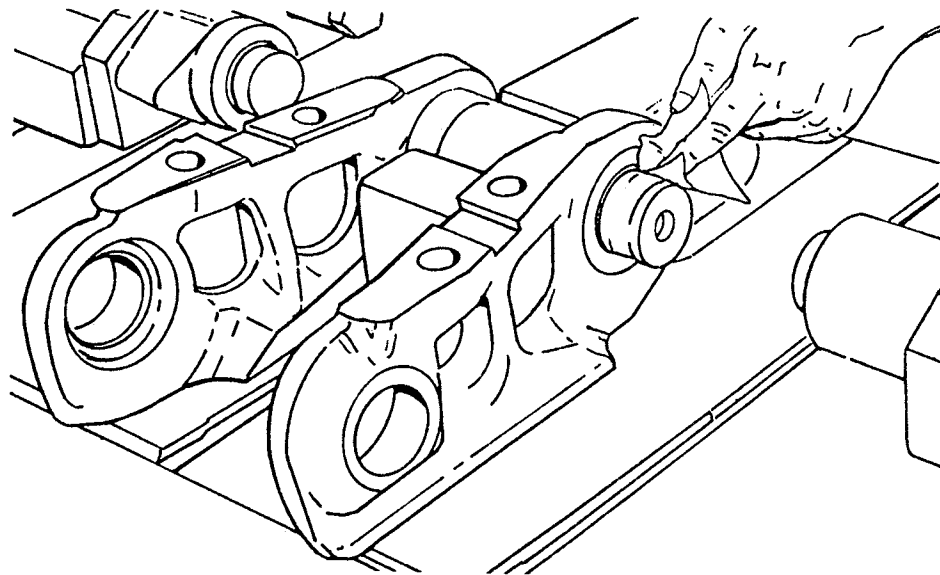

FIGURE 3
- Advance the track on the press and position a pin in the assembled bushing. Apply a coat of oil on the ends of the bushing with tissue (not your fingers) as shown in Figure 3, being careful not to get it on the pin surface.